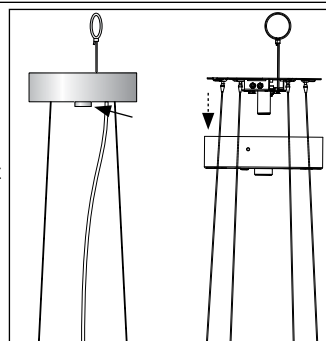

Figure 1: Canopy Cover Removal
1. Loosen fixing nut of the canopy and remove mounting plate from canopy. [Figure 1]